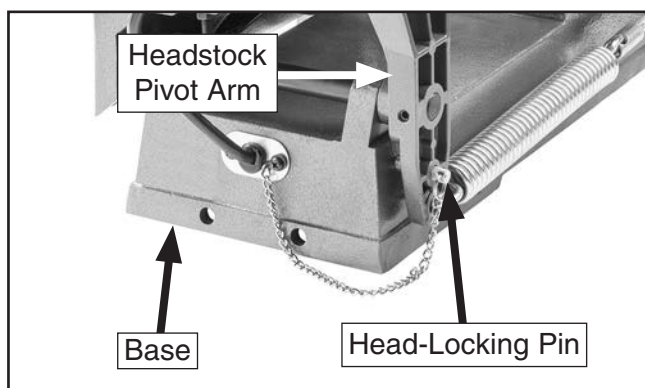

Figure 9. Headstock locked in down position.
1. Slide head-locking pin into headstock pivot arm and base (see **Figure 9**).